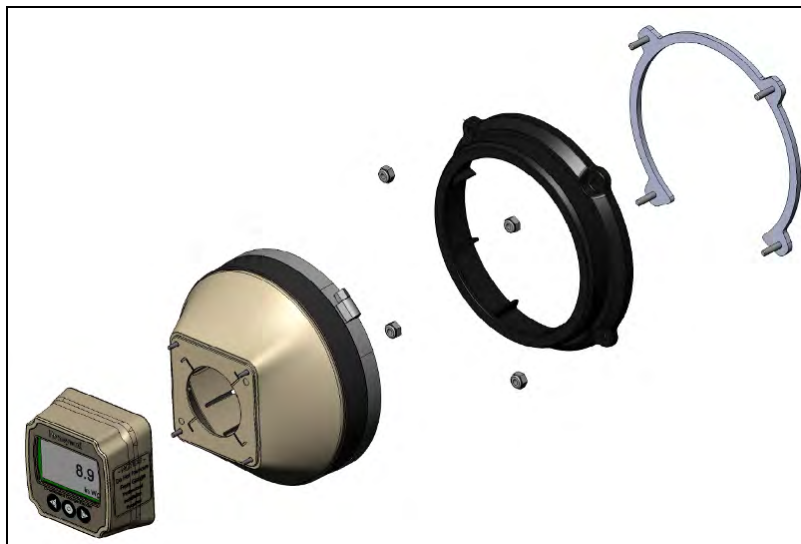

Figure 17 : Installation of a Magnehelic or Photohelic Gauge
- a) The band clamp should be aligned even with the front edge of the WGR Adapter, as shown in Figure 17.